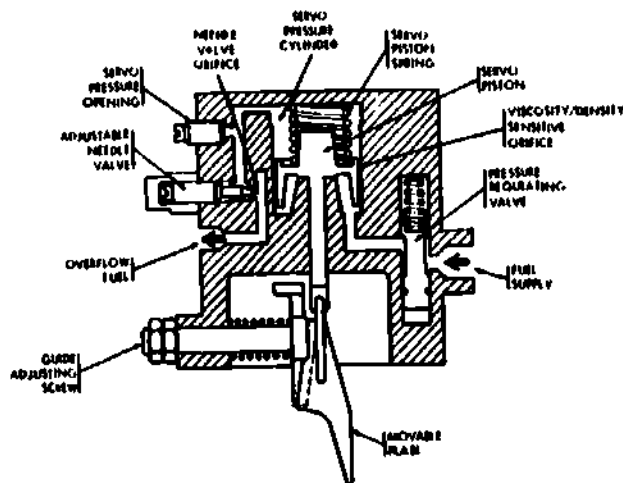

Fig 3-20. Diagram of fuel density compensator.
b. **Operation (fig 3-20).** To understand how the fuel density compensator works, recall that on the power strokes of the engine cylinder the pistons are pushed down by heat energy. The more heat produced in the cylinders, the harder the pistons are pushed and the faster the engine runs. The injector pump controls engine speed by regulating the volume of fuel injected into the cylinders. The amount of heat that is produced by different fuels depends on their weight instead of their volume. The heavier the fuel is, the more heat it produces. For example, one gallon of diesel fuel is heavier than one gallon of gasoline. Therefore, one gallon of diesel fuel will produce more heat energy than one gallon of gasoline. So a multifuel engine will run faster on diesel than on the same volume of gasoline. Here is how the fuel density compensator senses and makes adjustments for the different heat values of the fuel. Fuel at supply pump pressure flowing from the final fuel filter enters the density compensator at the tee fitting screwed into the rear of its housing. The fuel first flows to the density compensator's pressure regulator valve. Here the fuel supply pressure is reduced to a constant regulated pressure over the entire operating speed range. Fuel at a regulated pressure enters the cylinder under the servopiston where it overcomes the spring tension above the piston and raises the piston. Some of the fuel leaks between the piston and cylinder walls to fill the area above the piston. The piston is fitted very closely in the cylinder so that the amount of leakage is sensitive to the thickness of the fuel. This clearance is called the first or density sensitive orifice. Fuel passing to the top of the piston leaves the compensator through the second orifice, which is an adjustable needle valve. Fuel leaving the compensator is returned to the fuel tank. If the fuel passing through the second orifice is restricted enough, pressure will build up above the piston to a point where the piston is moved back down. The orifices, piston clearance, and the needle valve work at widely different restrictions to the flow of fuel. This causes the balance of the pressures above and below the piston to be sensitive to the weight or density of the fuel. To demonstrate this we will first use diesel fuel No 2, the heaviest and thickest fuel burned in the multifuel engine. Secondly, we will use regular gasoline, the lightest and thinnest fuel burned. The fuel is delivered to the bottom of the servopiston at a regulated pressure of 20 to 21 psi. The thick heavy diesel fuel leaks past the close fitting piston quite slowly. Fuel flowing out past the needle valve is not affected as much by the thickness of the fuel, so very little pressure is built up on top of the piston. The regulated pressure is much greater than the combined spring and fuel pressure on top of the piston, so the piston moves up. The piston in turn moves the wedge stop plate up so the accelerator linkage is stopped by the thickest part of the wedge. The linkage cannot travel far, so less diesel fuel is pumped to the cylinders when the accelerator pedal is pushed down. With regular gasoline, regulated pressure enters under the servopiston the same as with diesel fuel. But gasoline is lighter and thinner, so MORE gasoline leaks by the close fitting piston. The large amount of gasoline flowing to the top of the piston is restricted as it tries to flow past the needle valve. Now the combined spring and fuel pressure above the piston is greater than the regulated pressure. The piston and the wedge stop plate are pushed down. The accelerator linkage is now stopped by the thinnest part of the wedge so it can move farther to pump more gasoline to the cylinders. Thus, the fuel density compensator works to control the maximum amount of fuel pumped according